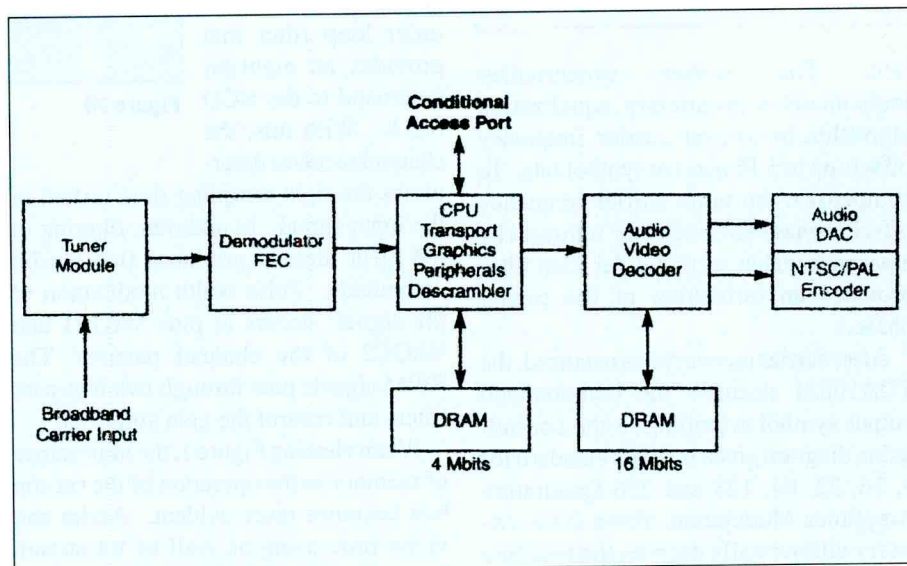

Figure 1. Simplified block diagram of an HDTV set-top box.
Figure 1 is a generalized block diagram of a typical set-top box and illustrates many of the functions performed by circuitry within the device. As the diagram indicates, tuner circuitry tunes to the carrier frequency and converts the incoming signal to a baseband format. Sampling of the baseband signal creates a digital representation of the signal.
When viewing Figure 1, the importance of memory to the operation of the set-top box becomes more evident. Audio and video processing as well as bit stream transport, microprocessor operation, and
Referring back to Figure 1, the graphics engine located within the host microprocessor processes and creates bitmaps that may overlay with video. In addition, the microprocessor programs the devices in the system and performs initialization and system maintenance functions like control, monitoring and interrupt handling of all components of the set-top box. The host microprocessor also provides the processing capabilities for graphic interfaces, electronic program guides and user interfaces.
Again referring to the block diagram shown in Figure 1, the demodulator and error correction portions of the host processor recover a digital transport layer bitstream that consists of a stream of packets. An associated Packet Identifier, or PID, links each packet to a particular program or carrying service information.
With Figure 1 in mind, the data stream applies to an on-chip DVB descrambler. From there, the demultiplexer section removes Program Specific Information (PSI), Service Information, (SI), Conditional Access, (CA), messages, and private data. All the information is stored in external memory for additional processing.